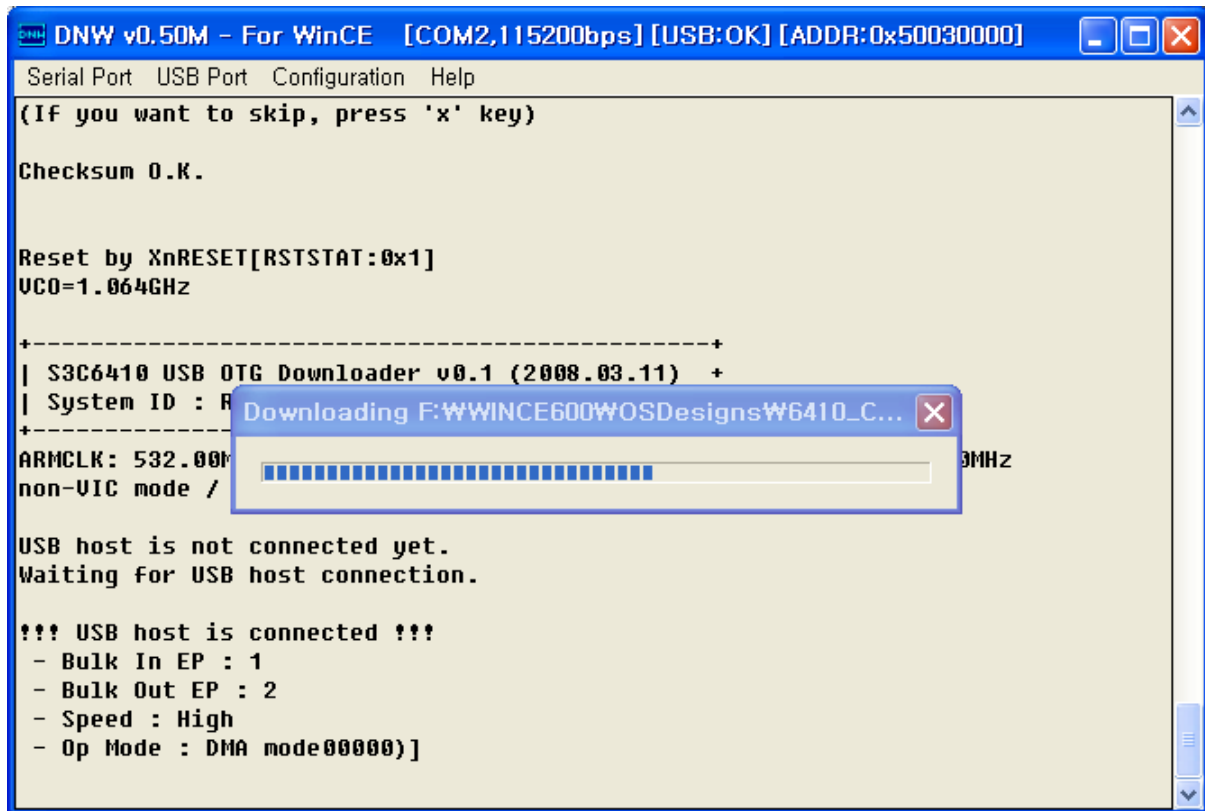

Figure 5-7 Downloading Status of NK.nb0
10. Once download begins, a download status bar appears on your screen as shown in figure 5-7. After NK.nb0 download is over, Windows Embedded CE 6.0 boots on the target Board